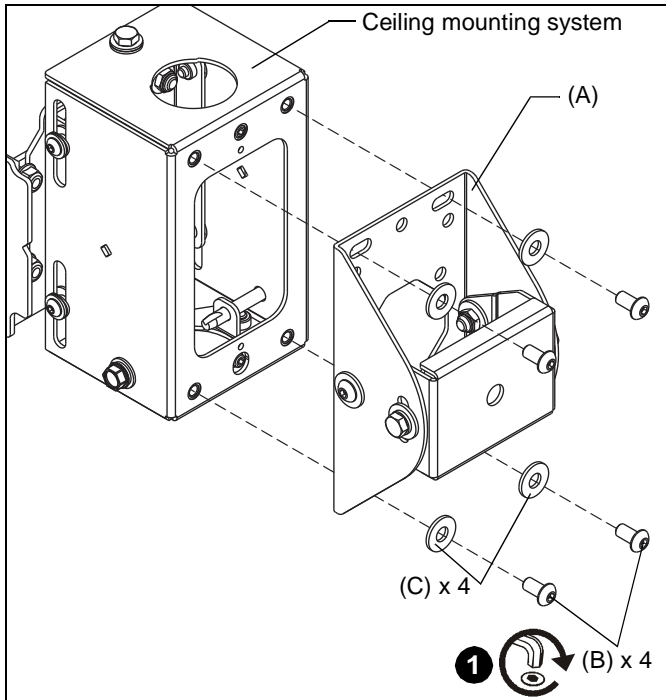

Figure 1
1. Attach threaded rod stabilizer accessory (A) to the ceiling mounting system using four 5/16 x 5/8" button head screws (B), and four 5/16" flat washers (C). (See Figure 1)